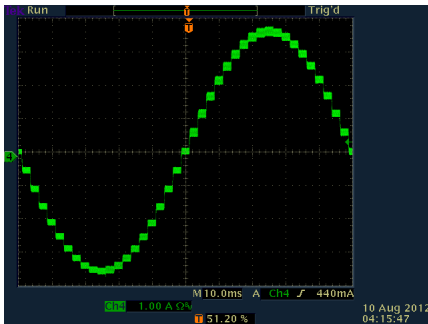

Figure 3
**SUB-MICROSTEPPING:** Figure 3 shows a normal 10-microstep motor current waveform set at 3.6 Amps per phase at a motor speed of 400 microsteps per second (12 RPM). Distinct changes in current (steps) can be seen for every input microstep pulse; this step change in phase current will cause motor vibration at very low speeds.